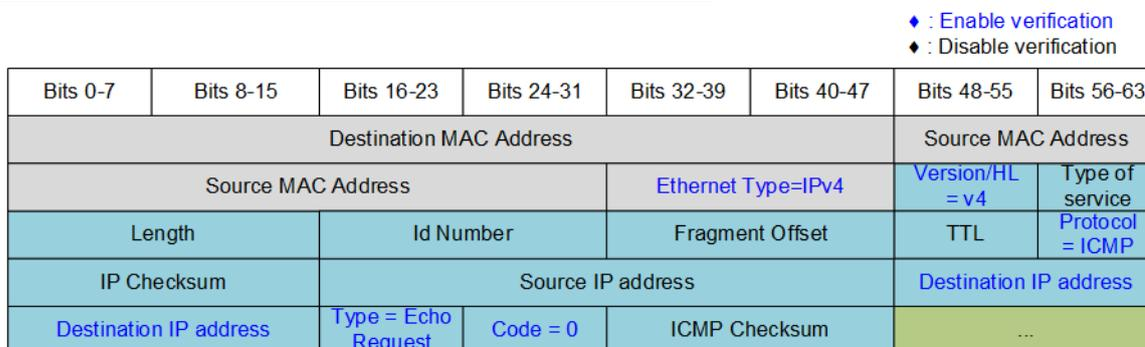

Figure 3-3 ICMP Echo request packet filtering
- 1) Set the filtering parameters of UserRxMAC to receive only ICMP Echo request packet by using `init_filter` function, as described in topic 3.2. The filtering data of ICMP Echo request packet contains the following fields (blue color in Figure 3-3).
*Note: Figure 3-3 shows only 38-byte of ICMP packet, the actual size of ICMP packet is 42 bytes (Rest of header field is excluded) because the filtering logic in UserRxMAC module is designed to support up to 38-byte header data.*
Description	Write RXEMAC_CMD_INTREG to pause the storing of received packet in the slow-port connection. Next, Write RXEMAC_HDVAL_ADDR and RXEMAC_HDEN_ADDR for filtering an ICMP Echo request packet as shown in blue color text of Figure 3-3.